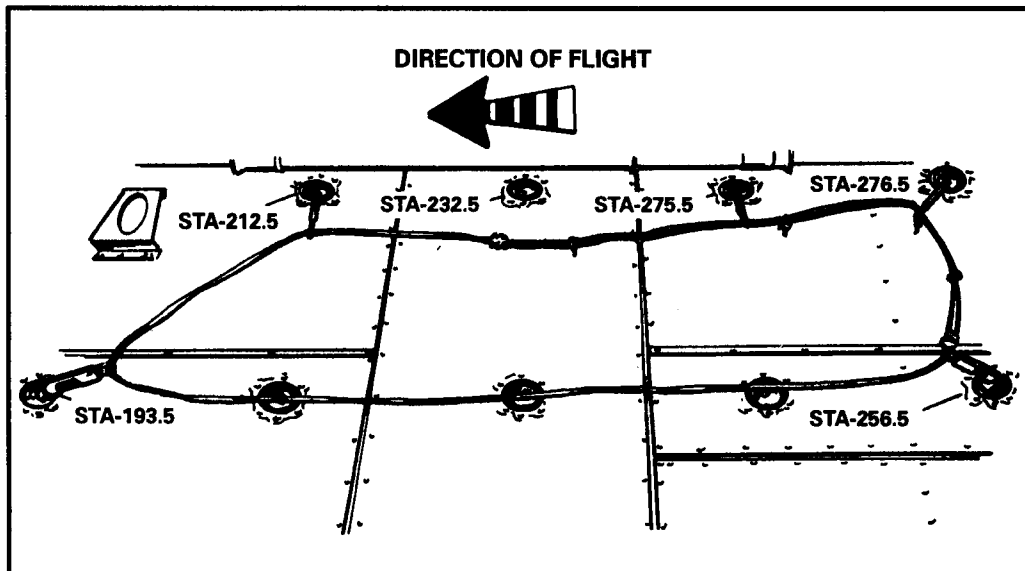

Figure 18-11. CH/HH-3 anchor line cable.
(1) Install the oval-shaped anchor line cable on the starboard side of the aircraft's floor using the tie-down fittings at station number 193.5 (right of center) as the port side forward attachment point; station number 212.5 as the starboard side forward attachment; station number 256.5 as an intermediate starboard side attachment point; and station number 276.5 as the starboard side rear and port side rear attachment points (Figure 18-11).